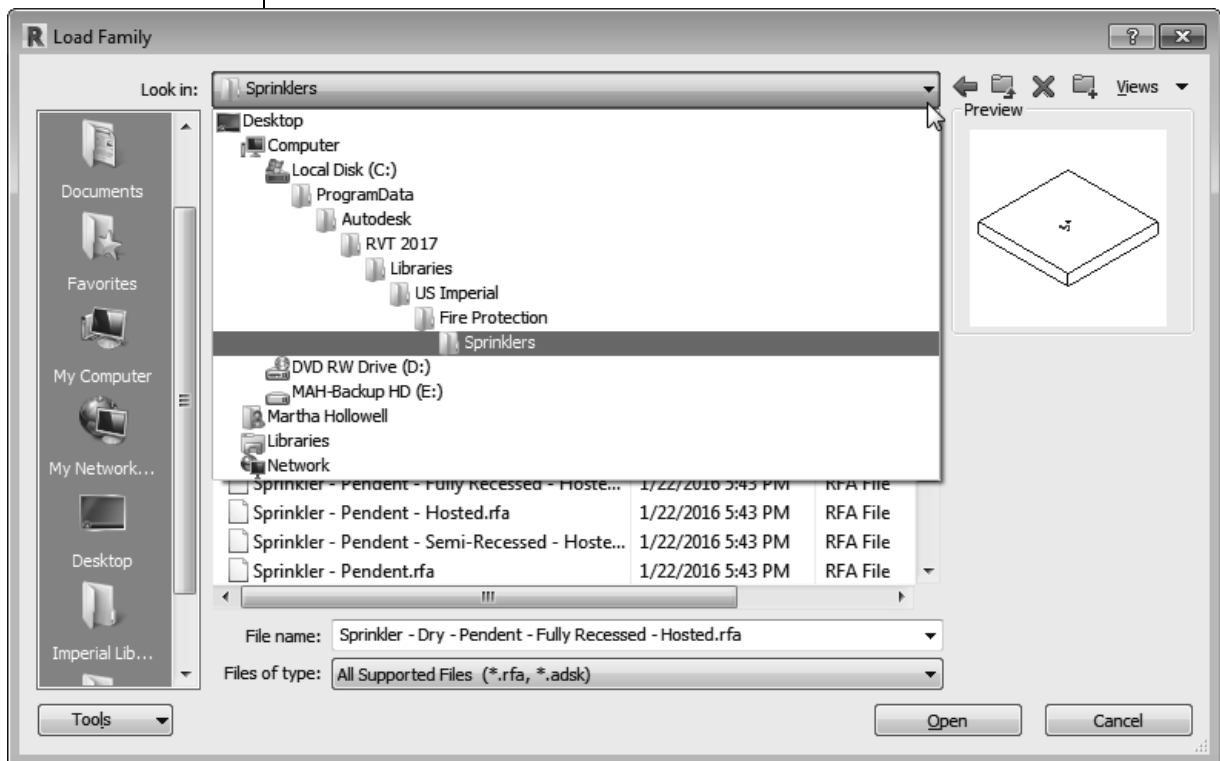

Figure 2–18
2. In the Load Family dialog box, locate the folder that contains the family or families you want to load, as shown in Figure 2–18.